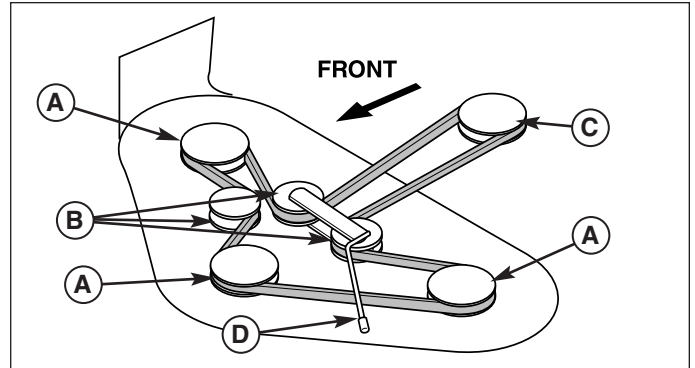

Figure 26. Mower Belt Routing
3. Remove the old drive belt and install the new one as shown in Figure 26. Note that the back of the drive belt must ride against the back-side idler pulleys (B). Use the belt tension lever (A, Figure 26) to release tension on the idler pulley for installation.